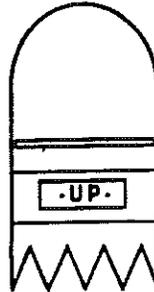

Fig. 3
5. Within 20 seconds the pen will BEEP and display UP. (see Fig. 3)